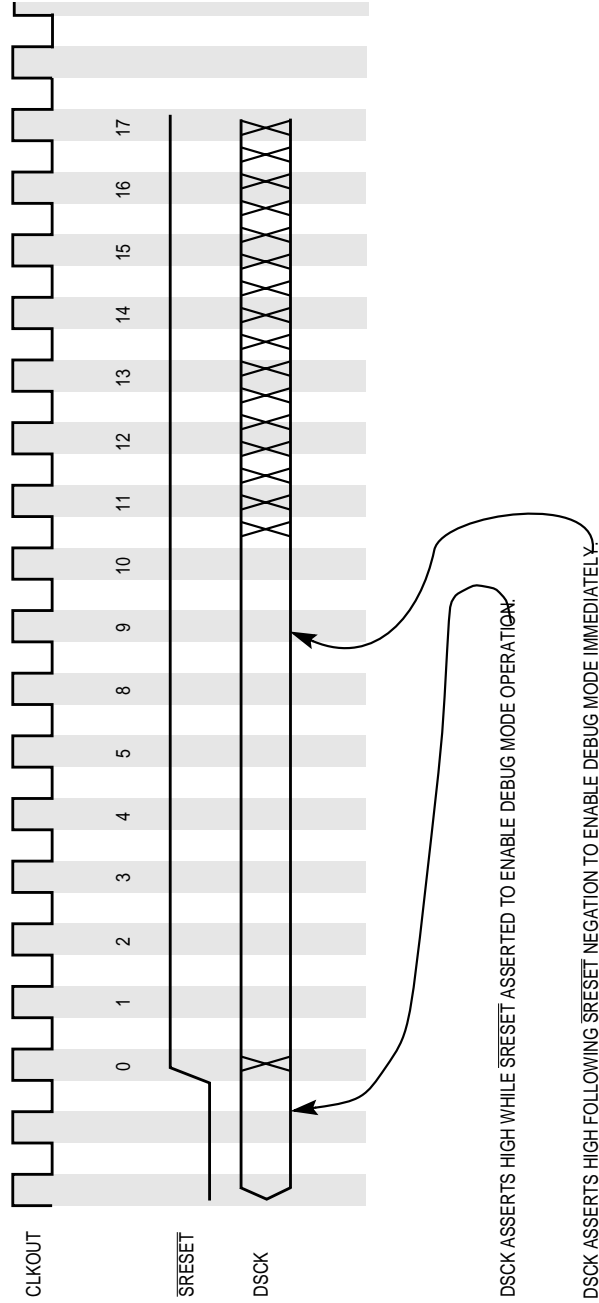

Figure 20-7. Debug Mode Reset Configuration Timing Diagram
**20.4.2.1 DEBUG MODE ENABLE VS. DEBUG MODE DISABLE.** For protection purposes, there are two possible working modes—debug mode enable and debug mode disable. These modes are selected at reset. Debug mode is enabled by asserting the DSCK pin during reset and the state of this pin is sampled three clocks before  $\overline{\text{SRESET}}$  negation. If the DSCK pin is sampled negated, debug mode is disabled until a subsequent reset that occurs when the DSCK pin is asserted. When debug mode is disabled, the internal watchpoint/breakpoint hardware is still operational and can be used by a software monitor program for debugging purposes. A timing diagram for the enabling debug mode is illustrated in Figure 20-7
To avoid entering debug mode after reset, the DSCK pin must be negated no later than seven clock cycles after  $\overline{\text{SRESET}}$  negates to allow the processor to jump to the reset vector and begin normal execution. When you enter debug mode immediately after reset, the DPI bit of the interrupt cause register (ICR) is set. For details, refer to the timing diagram illustrated in Figure 20-7.